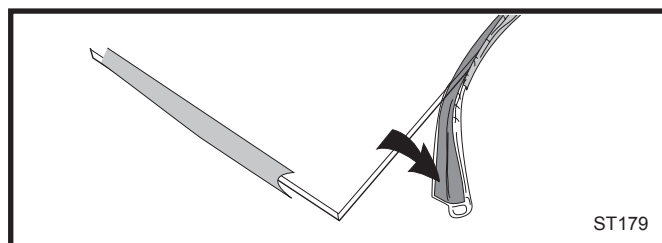

Fig. 80 Wrap the gasket material around the outside edge of the glass.
3. Starting on a long edge, remove about 6" of the protective paper strip and apply the flat adhesive face of the gasket around the outside-facing edge of the panel. Continue around the panel, applying about 6" at a time and being careful to not stretch the material. Do not overlap the gasket ends. (Fig. 80)